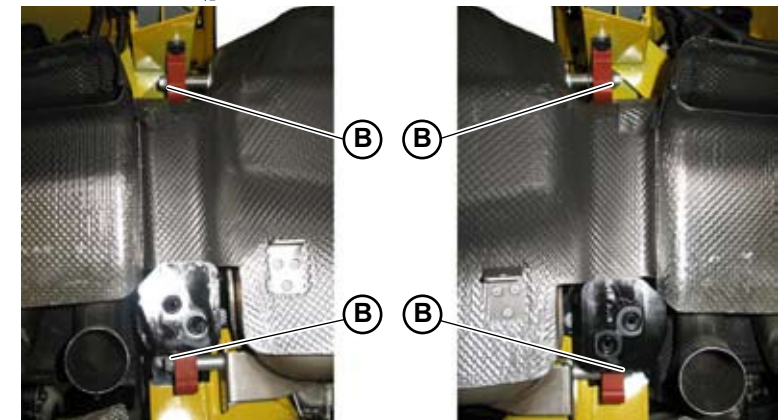

Fig.4
2. Secure the silencer to the flexible supports using the 4 bolts (**B-Fig.4**).